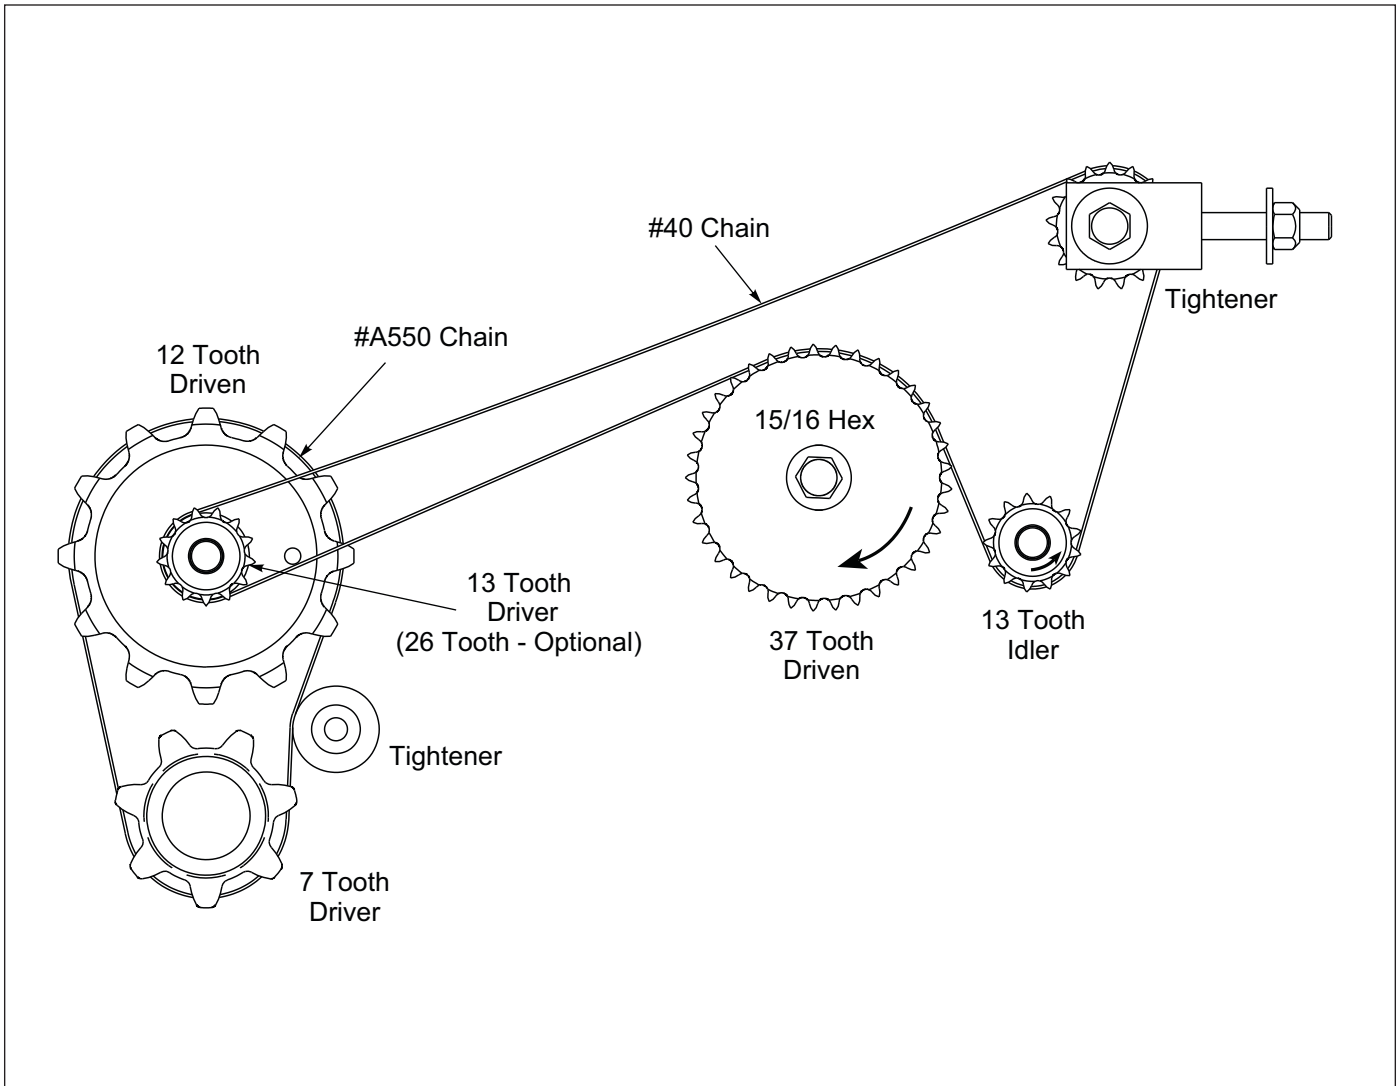

Figure 3-13: Transmission Drive
4. Turn 15/16 Hex on Transmission Shaft Clockwise (CW). **See Figure 3-13.**